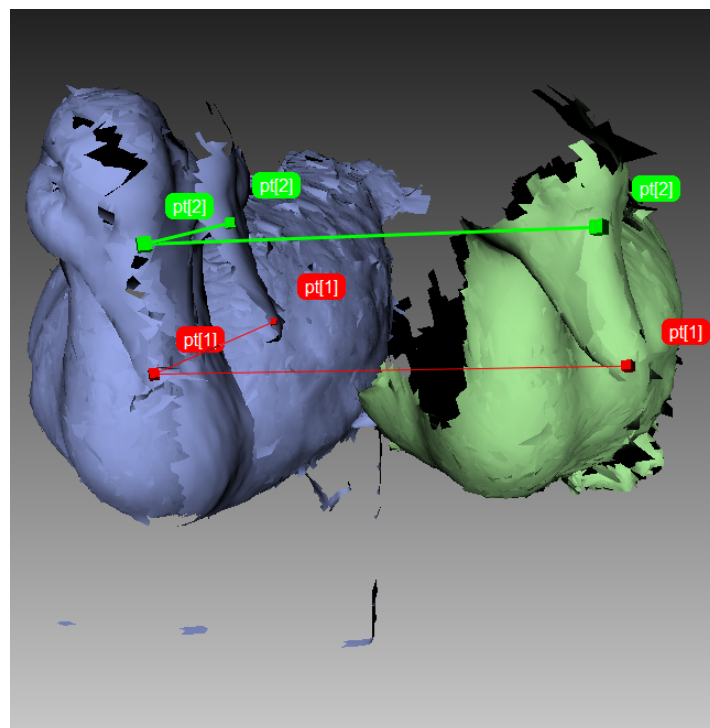

Figure 8.26: Before alignment: two point-set added.
When specifying points in the *Rigid* and *Nonrigid* modes, the application automatically creates pairs. Having specified one pair, you can immediately create the next one. In *Complex* mode you must confirm set creation by hitting `Space` or by clicking *New set* from the left panel, because the set may comprise multiple points (see Figure 8.20 and Figure 8.26).
3. Specify one or more point sets on the scan surface (see Figure 8.26), keeping in mind the recommendations in Specifying Points and Editing Their Positions.